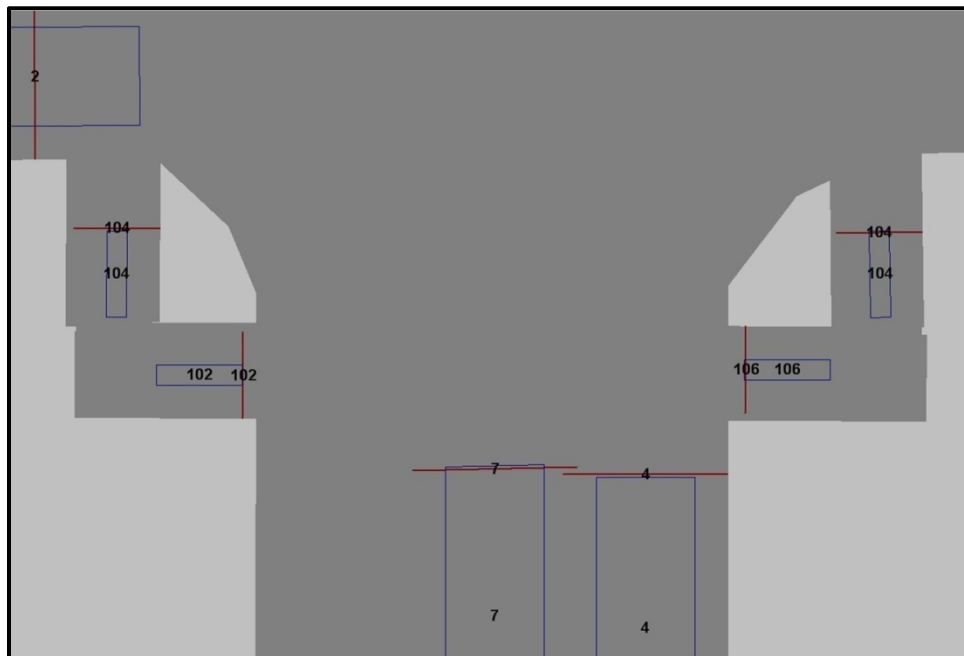

Figure 2.2. Typical Signal Group and Detector Numbering
Twenty priorities are available to accommodate pedestrians, low priority preemption, and high priority preemption. Priorities 1-8 are used for pedestrian phases, which are mapped to detectors 101-108 (default values). Using the previous signal example, pedestrian phase 2 is called using the detector tied to Priority 2 (102), as shown in Figure 2.2. Priorities 9-14 (detectors 201-206) are used for high priority preemption while priorities 15-20 (detectors 401-406) are used for low priority preemption. For example, high priority preemption 1 is activated by incorporating the detector that is mapped to priority 9 (detector 201). Typically, low and high preemption calls are limited to select vehicle types (which are a detector parameter in VISSIM) to eliminate calls by cars and heavy vehicles.